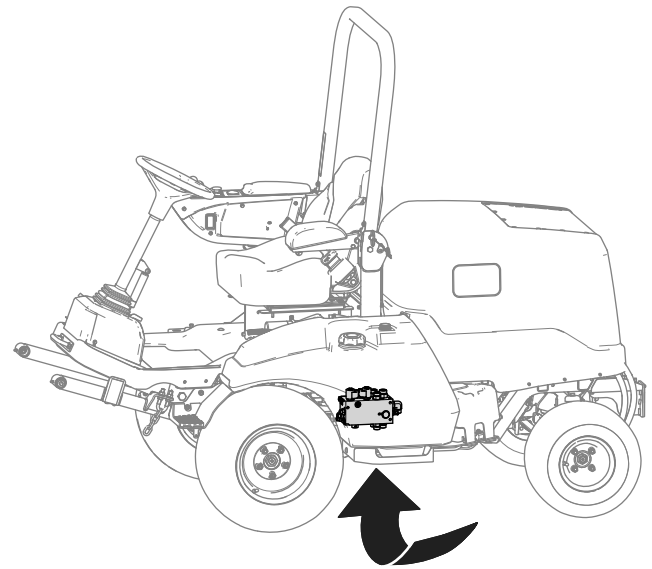

Figure 19
- Locate the lift manifold from under the machine (Figure 19).